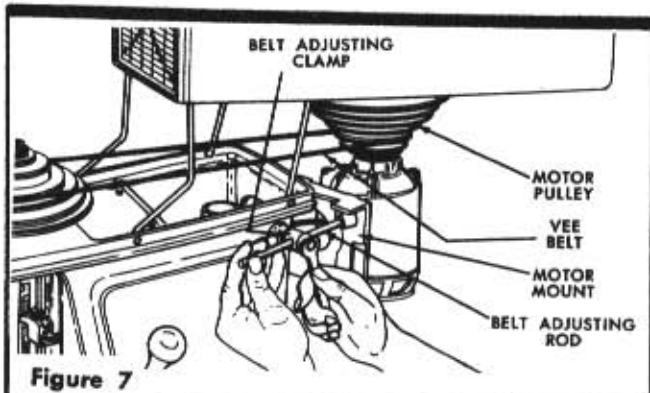

Figure 7
7. Mount motor pulley on motor shaft so that small diameter is at the bottom. (See figure 7), Align the motor pulley vertically with the spindle pulley and tighten the pulley set screw. If motor shaft has a "flat", position the pulley so that pulley set screw tightens against the "flat."
8. Loosen screw on belt adjusting clamp (see figure 7). Place the V-Belt around the pulley grooves which will give the desired speed (see figure 7) and take up belt slack by pivoting the motor mount away from the drill press head. While holding the motor mount in this position, slide belt adjusting rod until its tip contacts the motor mount and tighten screw on belt adjusting clamp.